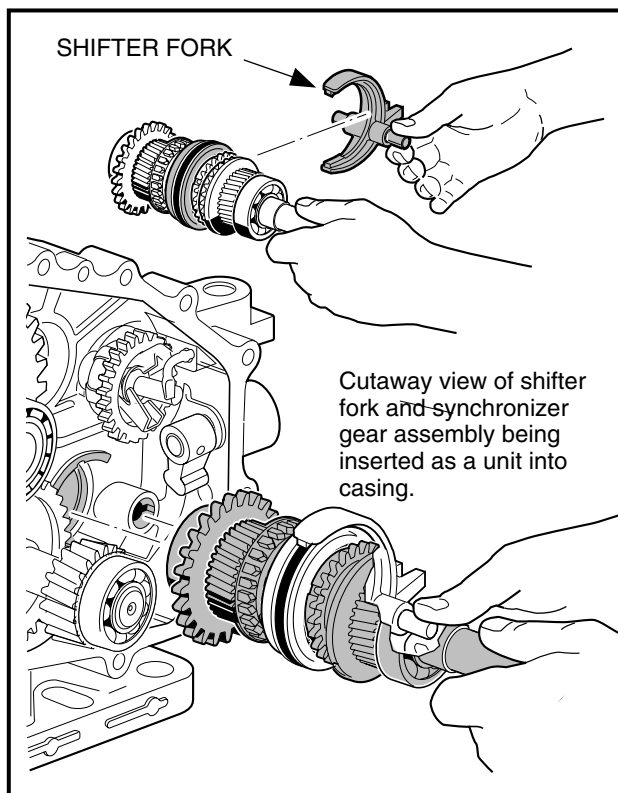

Figure 6-51 Synchronizer Ring Gear
- 7.4. Position the shifter fork assembly on the synchronizer gear assembly as shown, and install them together, bearing end first, into the bore containing the oil guide (**Figure 6-51, Page 6-23**). Do not seat the assembly, instead make sure the spur gear (43) is meshed with the governor gear (66) (**Figure 6-16, Page 6-9**), and the shifter lever (19) (**Figure 6-5, Page 6-4**) is positioned in the bracket on the shifter fork. **See also Figure 6-52, Page 6-24.**